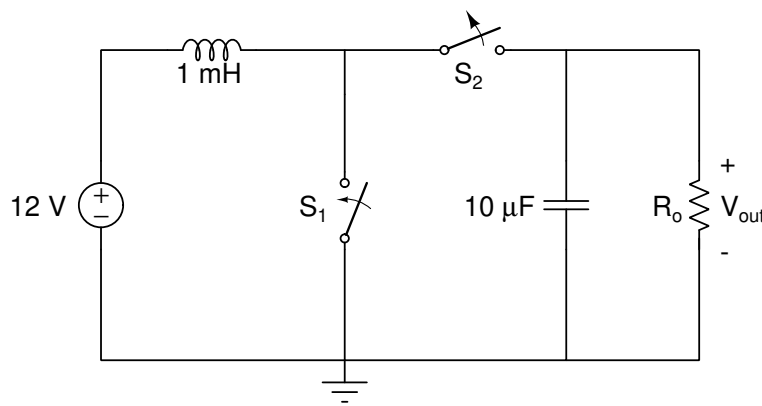

Figure 1: A boost converter circuit containing two synchronized switches.
In this lab, you will design, simulate, build, and test a boost converter based on the switched capacitor circuit shown in **Figure 1**. You will analyze how the output voltage changes over the temperature range between -40° and $+60^{\circ}$ C.
Figure 2: Boost converter circuit implemented with an NMOS transistor driven with a function generator (FG) to represent the switch S_1 and a junction diode to represent the switch S_2 in Figure 1.